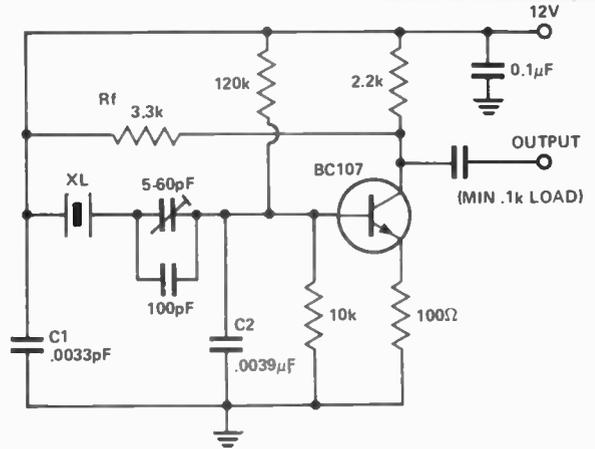
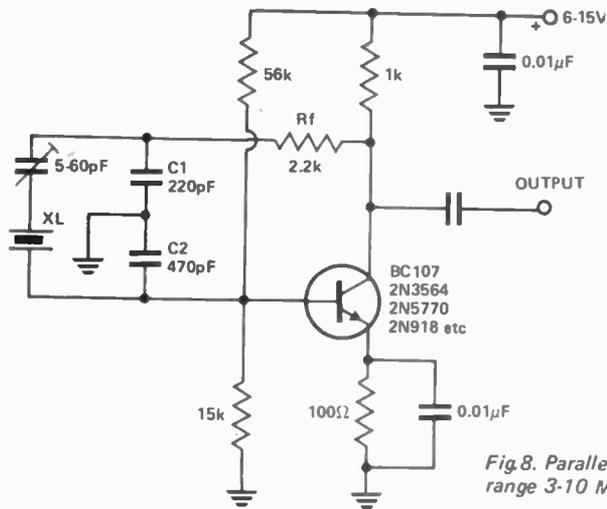

Fig.6. Parallel mode L.F. oscillator.
Fig.8. Parallel oscillator for the range 3-10 MHz.
The circuit in Fig. 6 is also described by Lane (3) and can be recognised as a modified form of the Colpitts oscillator, with the addition of resistor Rf to control feedback (it works the same way as Eno's). Capacitors C1 and C2 should be reduced by preferred values as the frequency is increased. At 500 kHz, values for C1 and C2 should be around 100 pF and 1500 pF respectively.
A useful oscillator for the range 3 to 10 MHz that does not require a tuned circuit is given in Fig. 8 (a). It is, of course, the same circuit as Fig.6. The circuit can be used down to 1 MHz if C1 and C2 are increased to 470 pF and 820 pF respectively. It can be used up to 15 MHz if C1 and C2 are reduced to 120 pF and 330 pF. Respectively. This circuit is recommended for non-critical applications where high harmonic output is wanted, or not a consideration.
This circuit (Fig. 8) can also be turned into a very effective VXO. A small inductance is placed in series